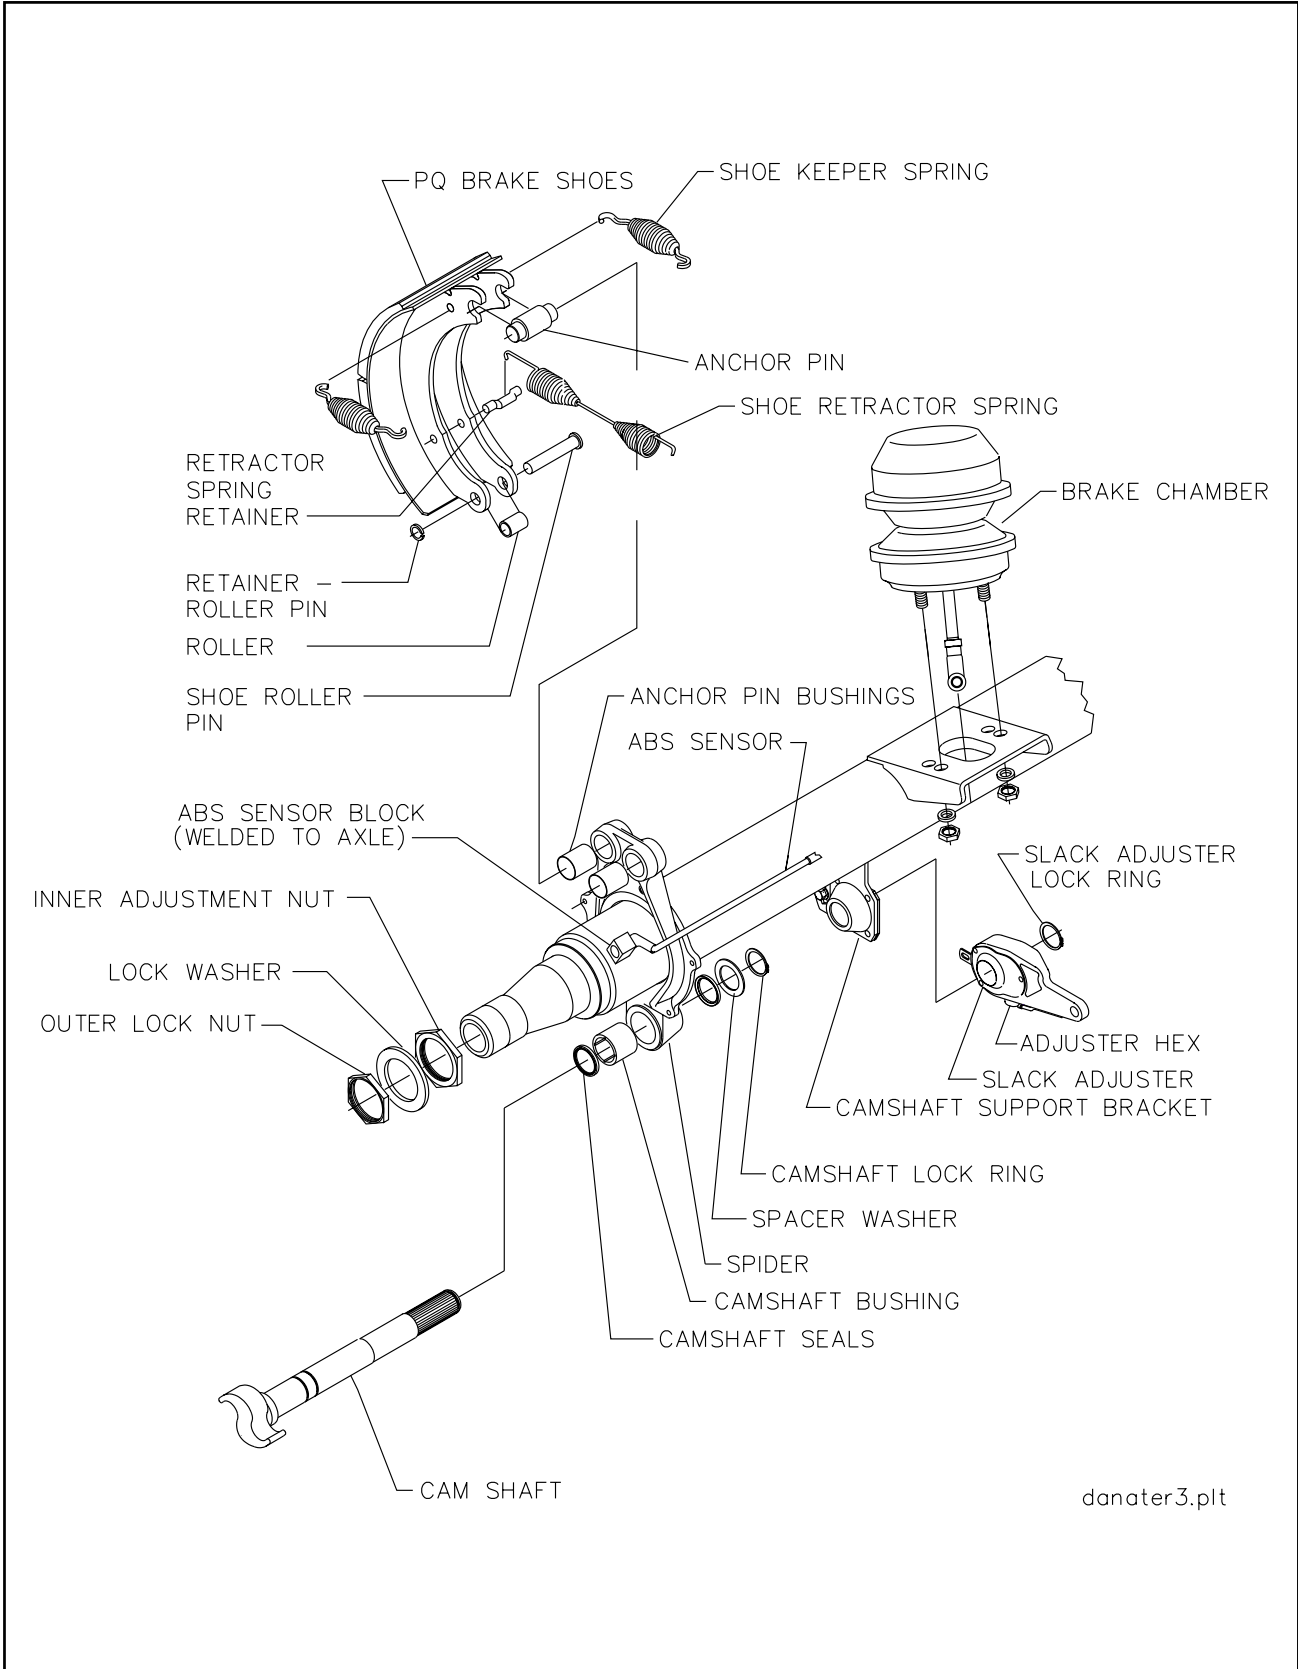

Figure 4-12 Axle and Brake Assembly
2. Remove dust cap from the rear of the spring brake chamber (**See Figure 4-12**).
- b. **Disassembly for 12-1/4" X 7-1/2" Brakes (See Figure 4-12)**
3. Remove drum assembly (See Figure 4-12).